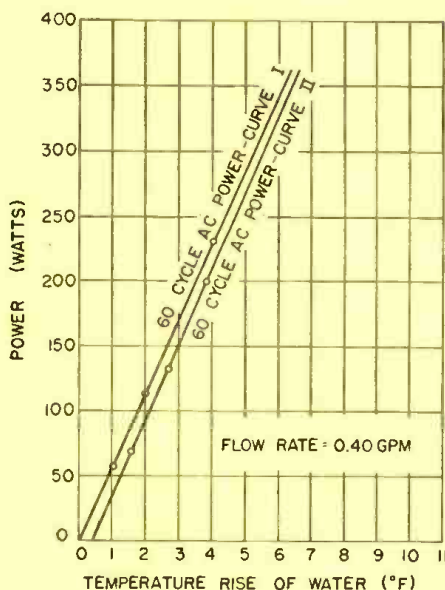

Fig. 2. Calorimeter calibration curves.
A series of tests was also made utilizing thermopile Type A in measuring the cooling water temperature difference, the results of which are presented in Fig. 2. Curve I is a plot of the power vs. the temperature difference as calculated from Eq. (1) for a flow rate of 0.40 gpm. The results of these test runs, in which the mean water temperature was equal to the environment air temperature, coincided with theoretical curve I, thus confirming the use of thermopile Type A when the power substitution method is not utilized in the calibration of the calorimeter. Curve II is a plot of the results obtained when the environment air temperature was greater than the mean water temperature. Since the amount of heat absorbed by the water from the environment air is approximately constant over the small temperature range, the effect of the environment air is manifested in an initial displacement of the curve.